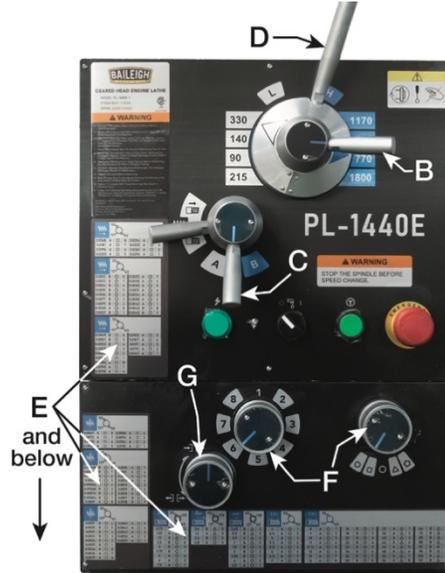

Figure 13-1
3. Move Feed Rate/Thread Selector Dials (F, Figure 13-1) to the appropriate positions, according to the Feed/Thread Tables.
4. Turn the feed on and off using the Feed On/Off dial (G, Figure 13-1).
1. Move the High/Low Speed Selector Lever (B, Figure 13-1) to either the High or Low setting.
2. Move the RPM Speed Selector Lever (D, Figure 13-1) to the desired RPM.
1. Reference the Feed/Thread Tables (E, Figure 13-1). NOTE: Additional Feed/Thread Tables are located above the chuck key.
2. Move Auto Feed Rate Lever (C, Figure 13-1) to either A or B, according to the Feed/Thread Tables.